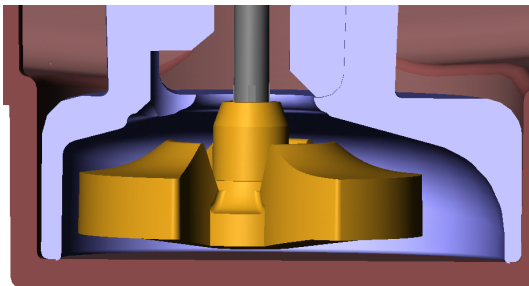

Fig. 5 Pump housing
| Fig. 5 Pump housing | 4 |
- The pump rotor rotates in the pump chamber, which is filled with water. This is formed by the bottom of the float tank and the underneath of the pump housing (fig.5).